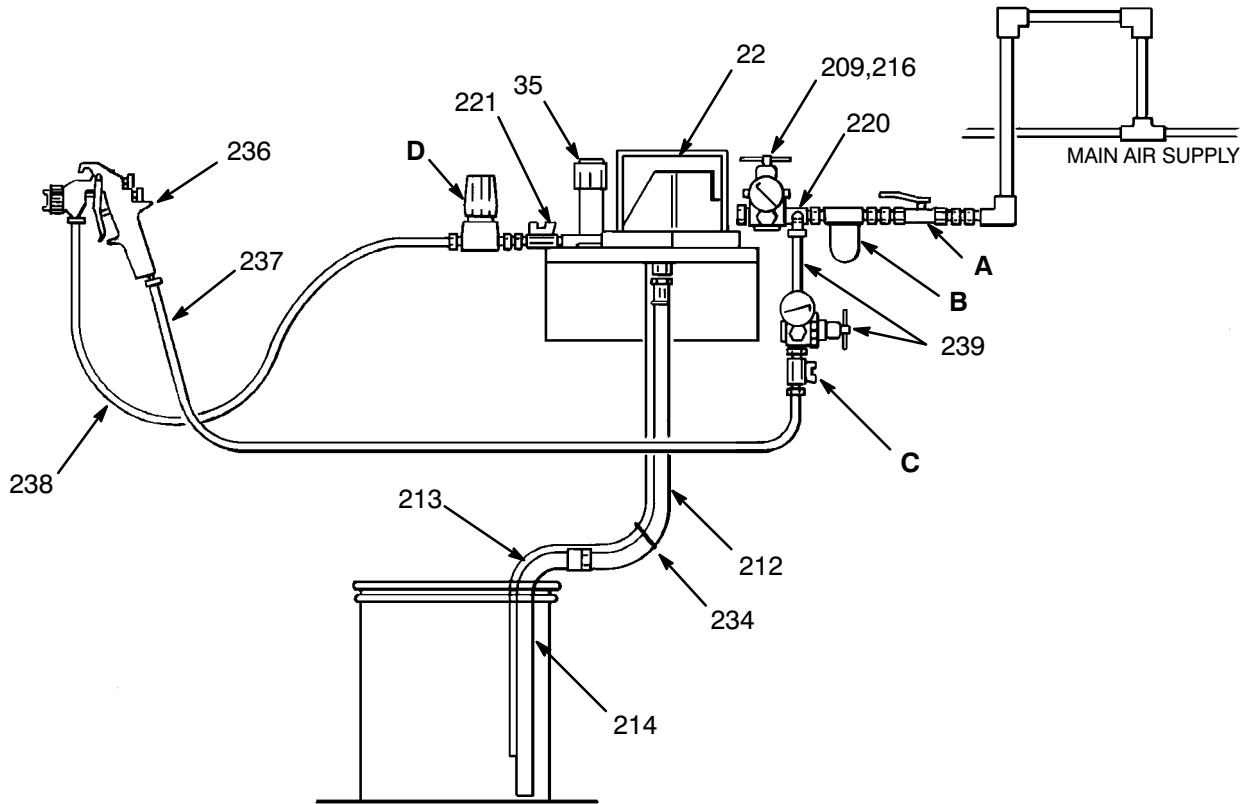

Fig. 2
Connect the drain hose (213), suction hose (212), and suction tube (214) as shown in Figs. 2 and 4. Secure the drain hose to the suction hose with plastic ties (234).